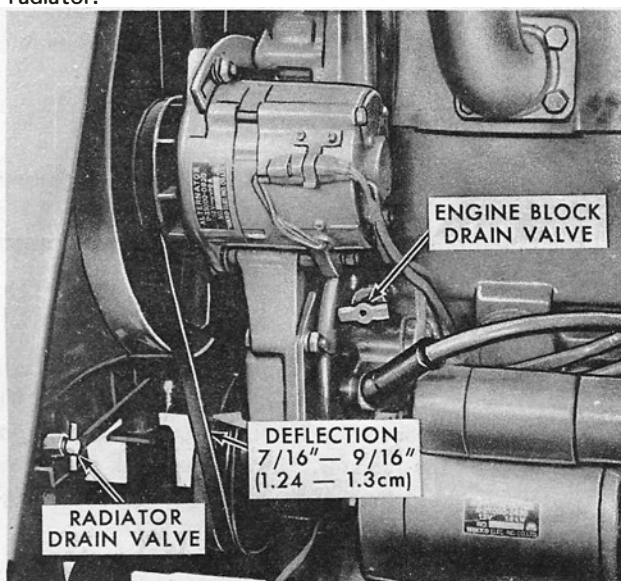

Figure 33
1. Remove the radiator cap and open the drain valve at both the radiator and the engine block. The radiator drain valve is located on the bottom left side of the radiator. The engine block drain valve is located in front of the starting motor on the right side of the engine. See Figure 33.
1. Loosen the alternator mounting bolts, Figure 33.